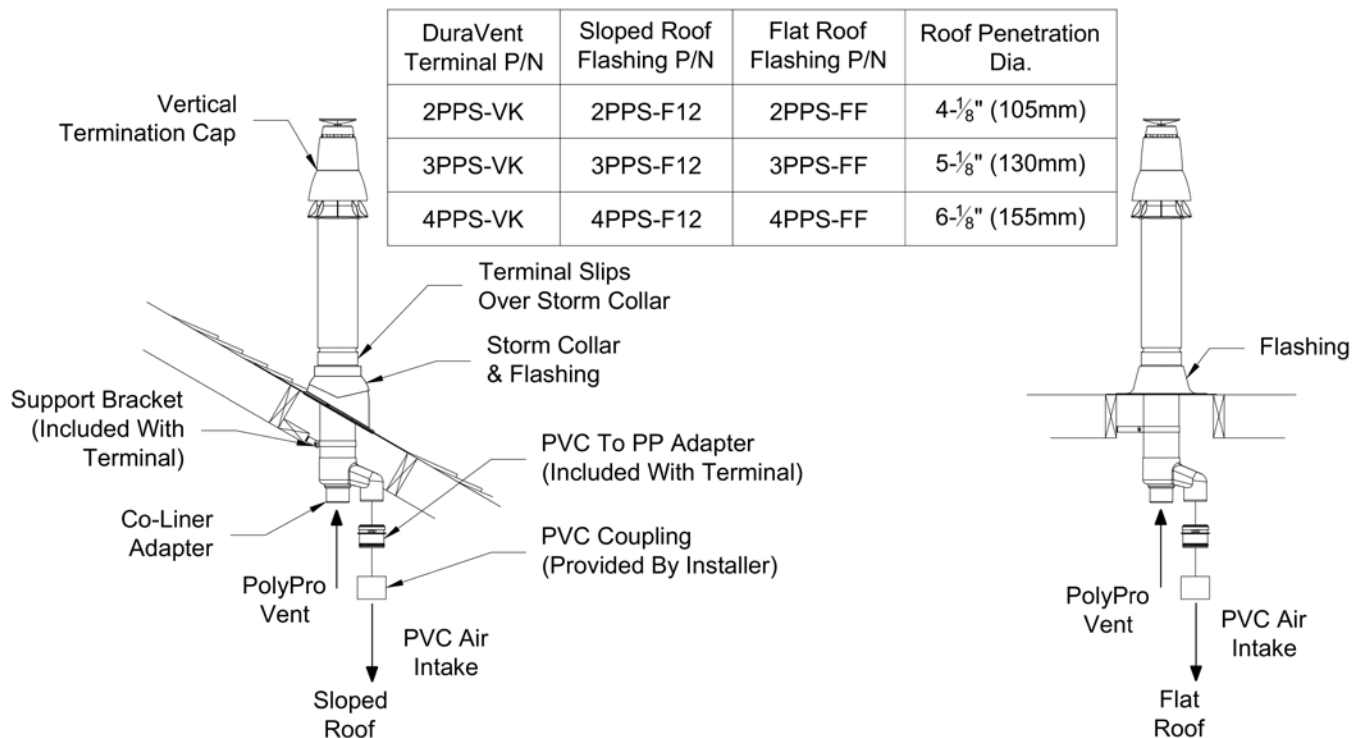

**Figure 7.37: Cutting DuraVent PolyPro Horizontal Concentric Vent Terminal**
- b. If desired, the terminal can be shortened. Mark the desired location of the cut on the outer pipe no closer than 2" from the edge of the tab on the interior wall plate. Prior to cutting outer pipe measure dimension 'A' of the inner pipe as shown in Figure 7.37 and maintain this dimension after cutting the outer pipe. All cuts must be square and de-burred.